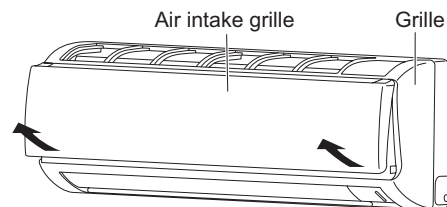

Fig. 2-164
- (1) Grasp both ends of the air intake grille, and remove it by opening towards the front and pulling towards you. (Fig. 2-164)